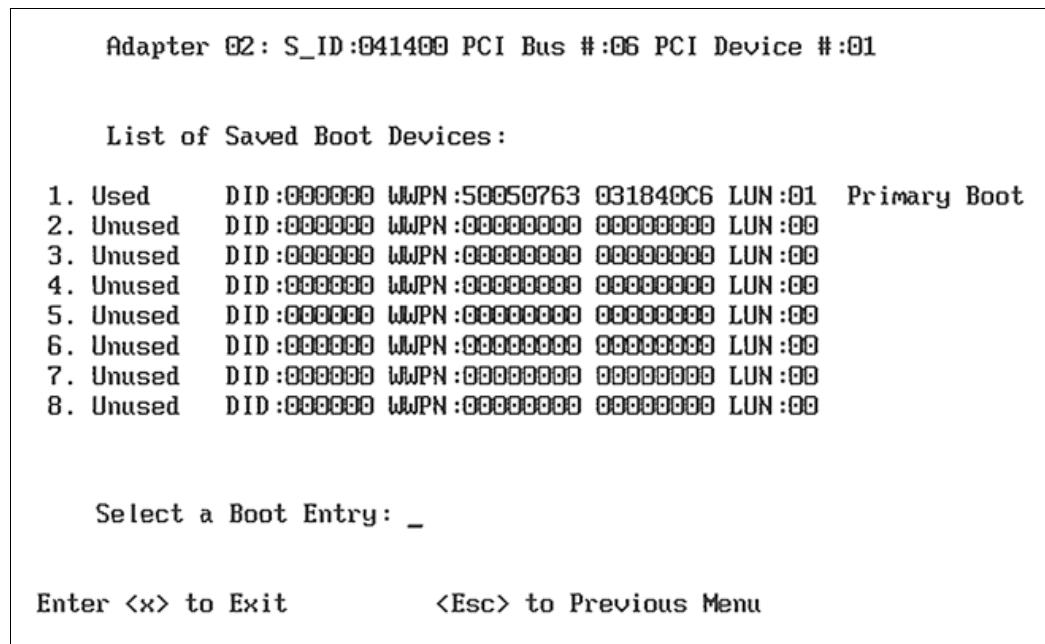

Figure 18-20 Exit Emulex Boot Utility and saved boot device panel
13. After this process is complete, press X to exit and save your configuration as shown in Figure 18-20. Your HBA's BootBIOS is now configured to boot from a SAN on the attached storage device.